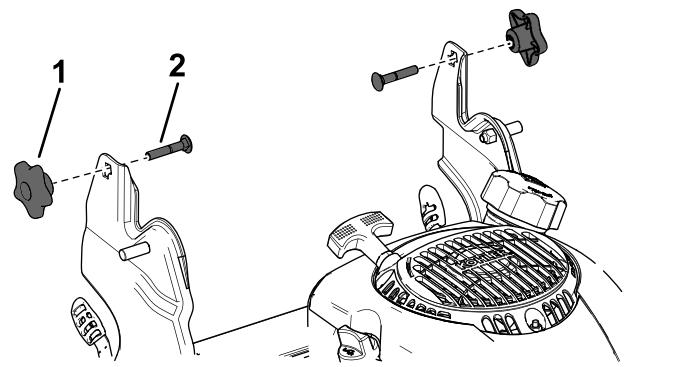

Figure 20
3. Loosely install the handle knobs and carriage bolts on the handle brackets (Figure 20).